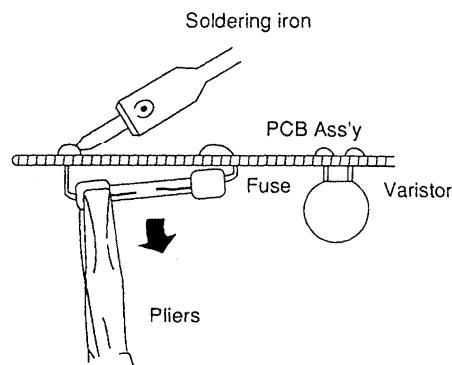

Fig. 6
- Pull out the fuse at the metal clasp using pliers while heating the soldered leads on the back side of the PCB Ass'y with a soldering iron (30W or 60W). (Fig. 6)